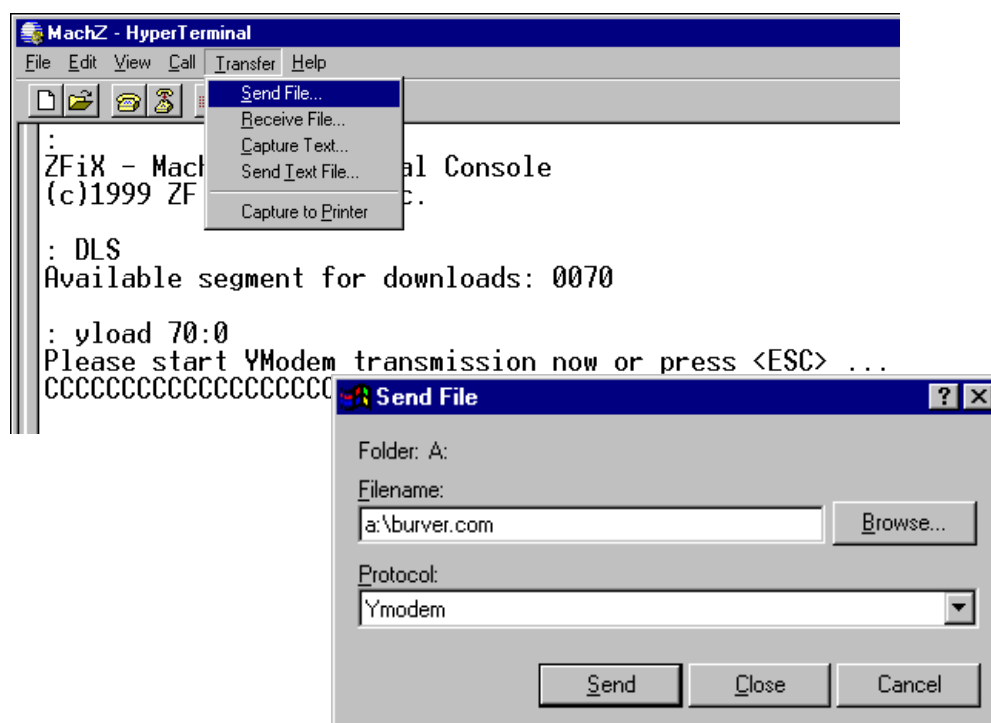

Figure 6-5 Using HyperTerminal - Send File Ymodem
5. Use the **yload** command to download. In order to do the file transfer, see Figure 6-5 "Using HyperTerminal - Send File Ymodem"